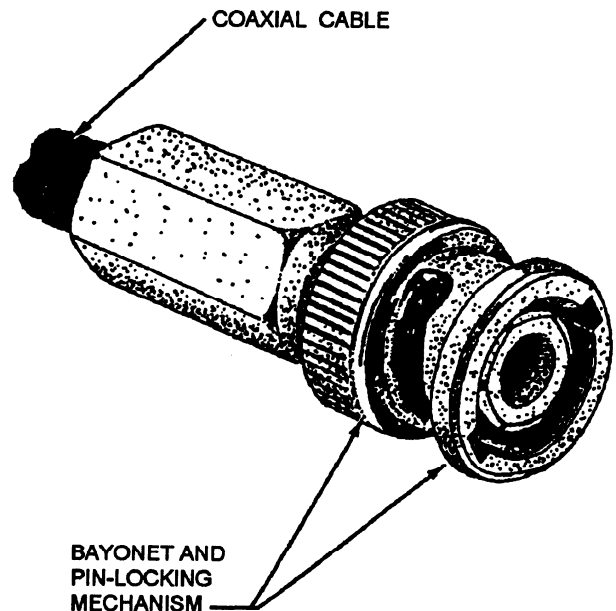

Figure 2-22.—Coaxial connector.
**COAXIAL CONNECTORS.** —Coaxial connectors are designed for single, twin (twinax), and triple (triaxial) conductors (fig. 2-22). Refer to MIL-C-17 for connector specifications. Contacts or pins located on either the receptacle or plug are round and can be male or female. Coaxial connectors are secured bayonet-style (pin and curved slot) to protect against shock and vibration and for quick removal and replacement.